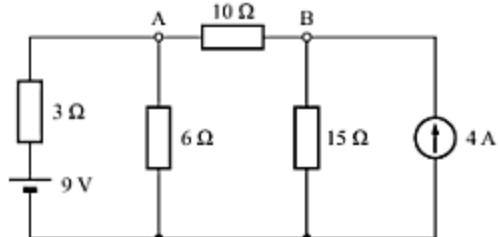

Fig. 4.41
- Find the current  $I$  in  $10\text{-}\Omega$  resistor in the circuit shown in Fig. 4.41, using Thevenin's theorem.